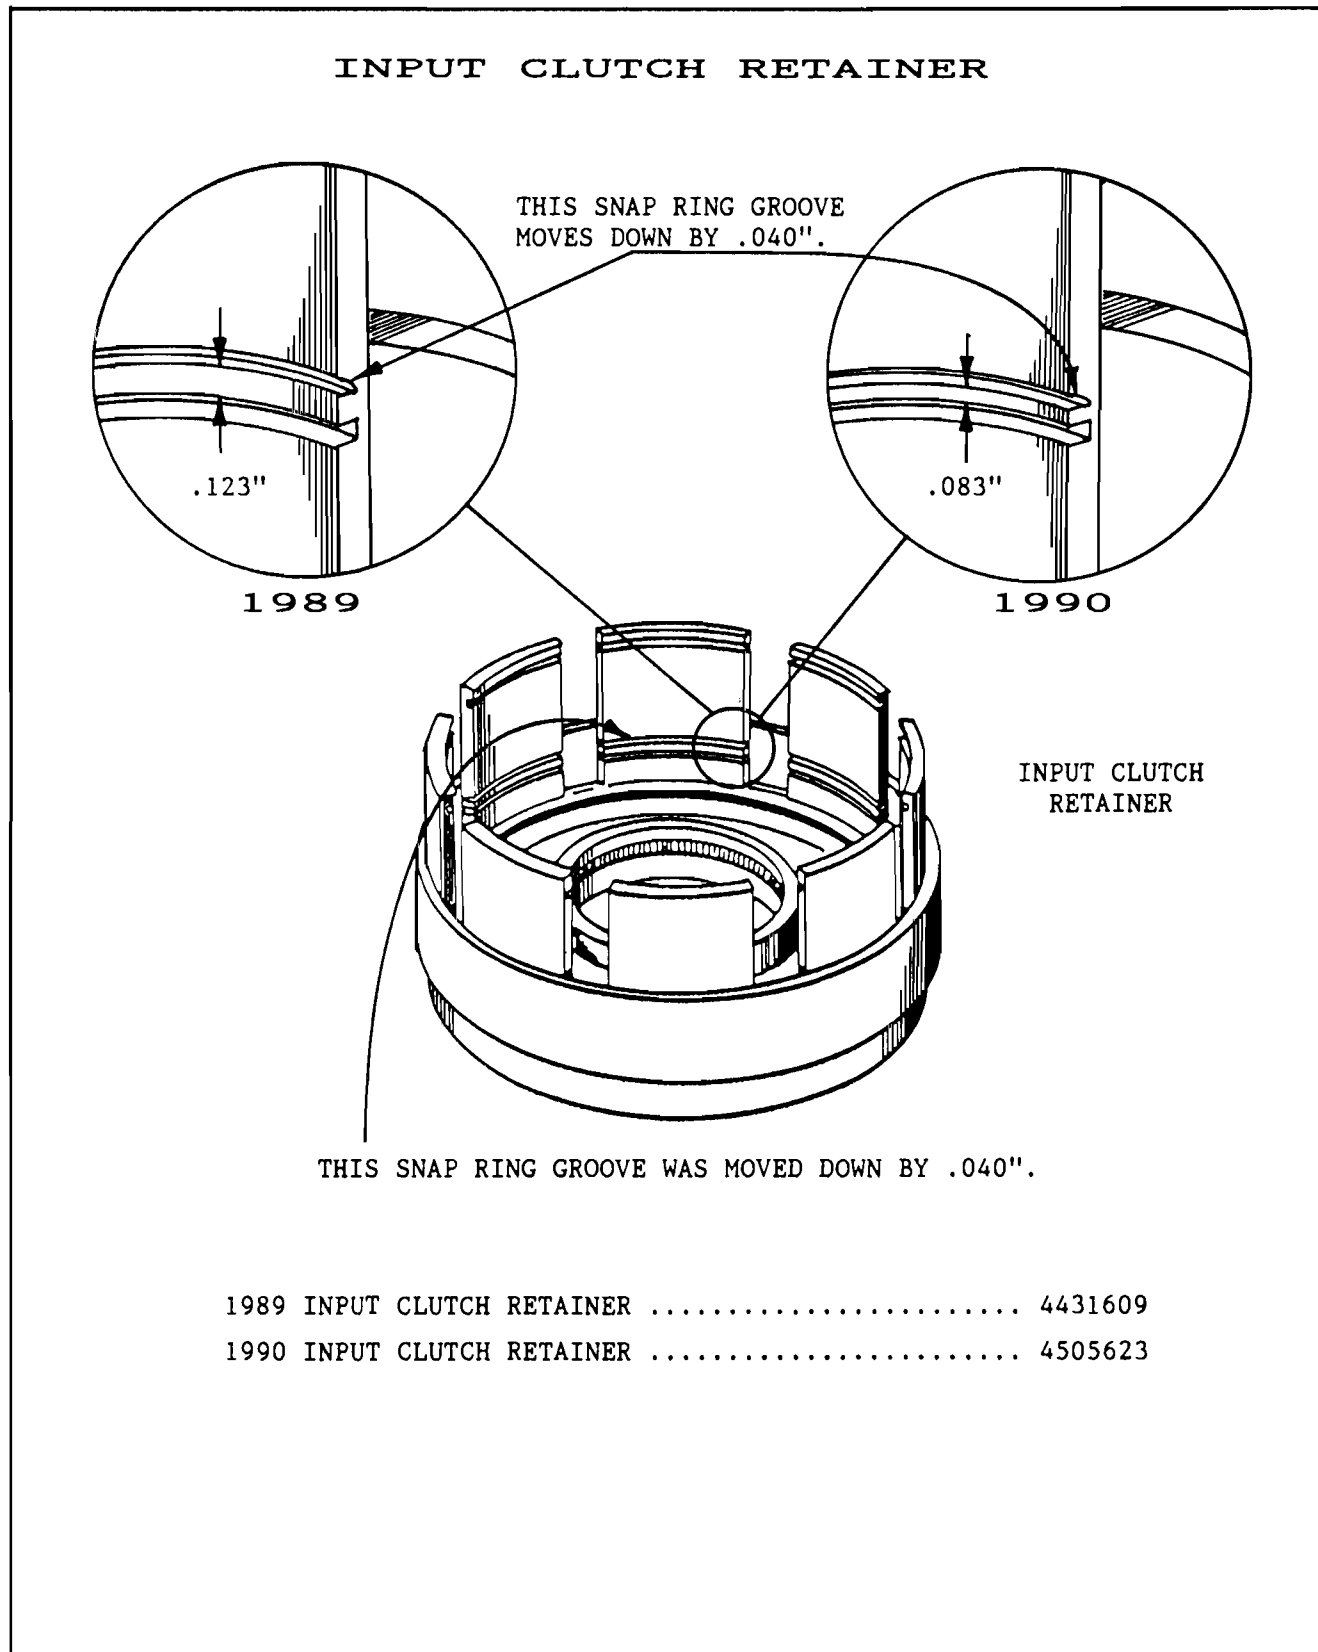
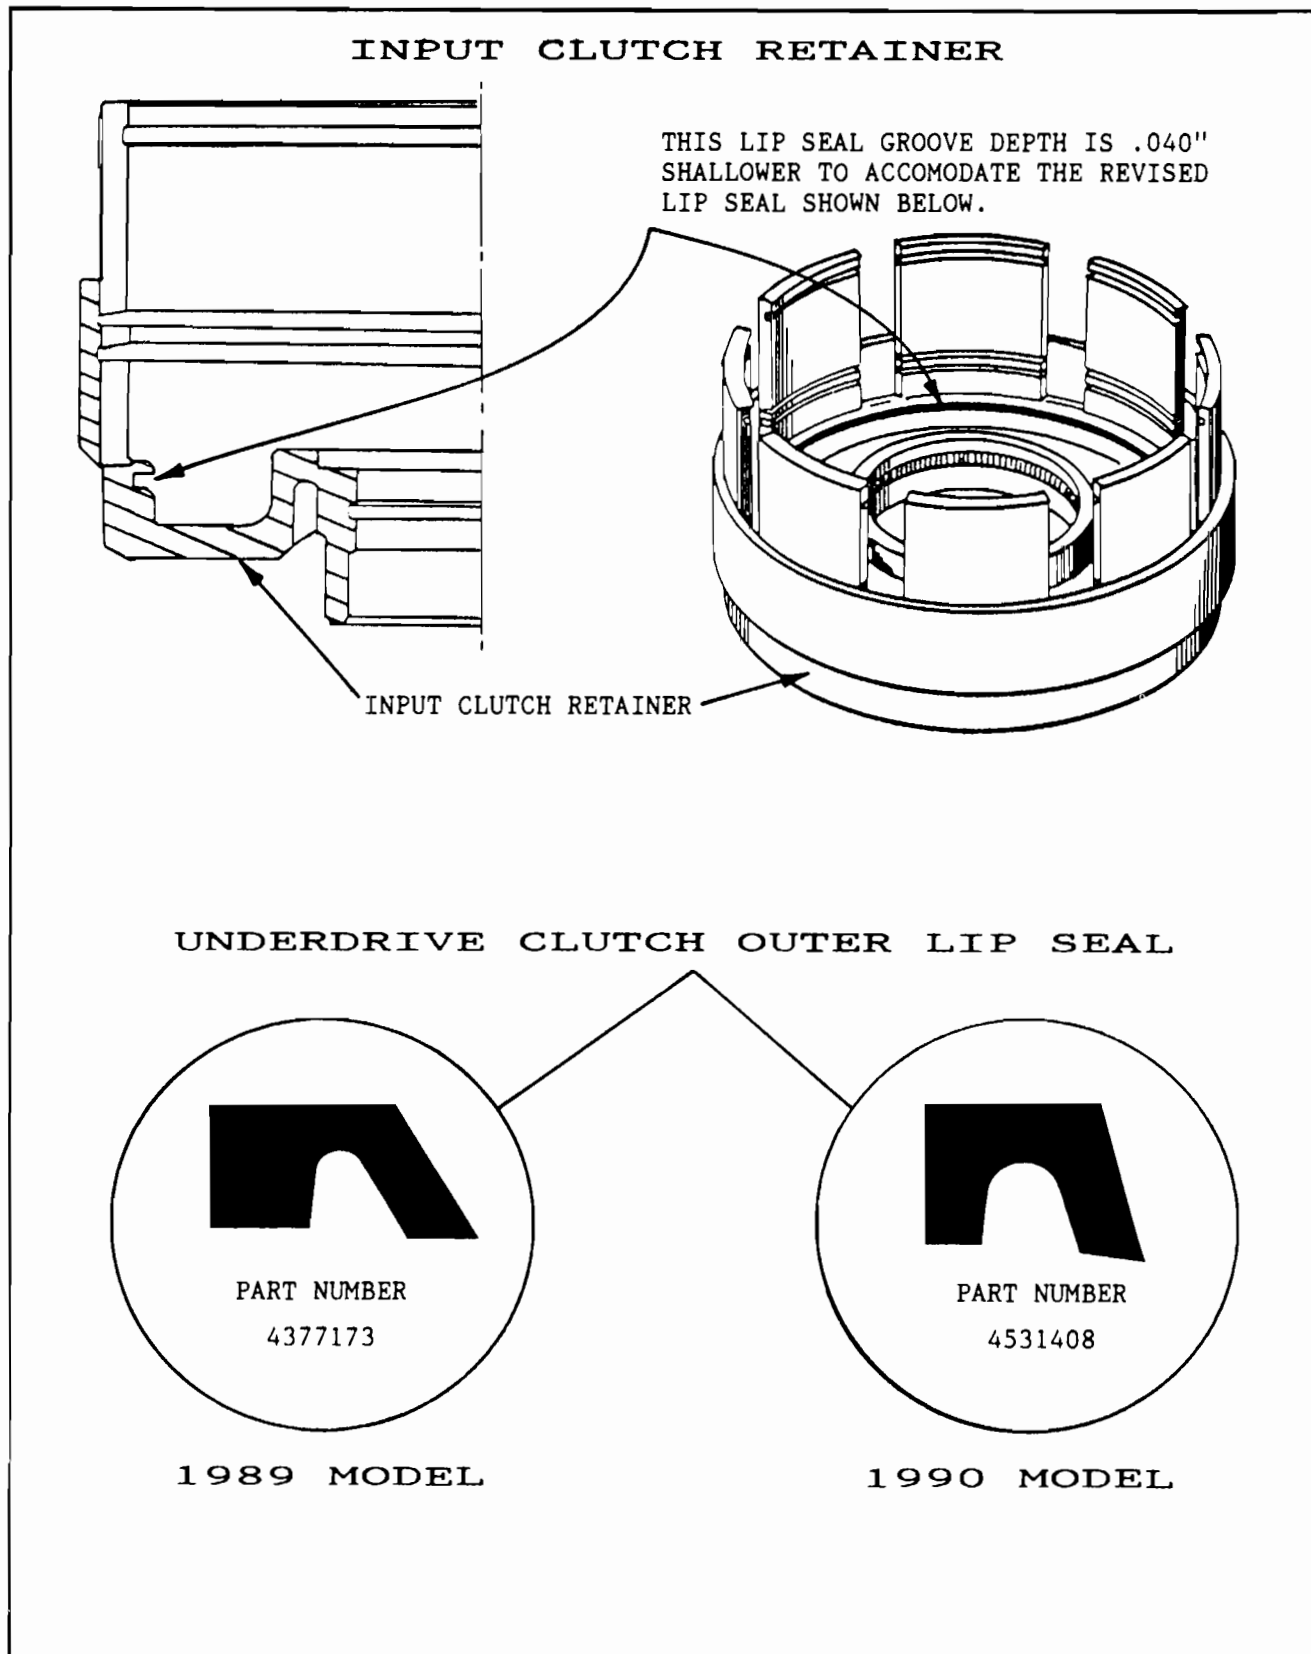

Figure 47
Figure 48
- (4) **INPUT CLUTCH RETAINER** - The Underdrive/Overdrive reaction plate tapered snap ring groove was moved "Down" by .040" (Can be detected visually) to accomodate the thinner underdrive/overdrive reaction plates (Figure 47). Another change that occurred at the same time is the underdrive clutch outer lip seal groove depth is .040" "Shallower" to accomodate a new underdrive clutch outer lip seal (See Figure 48).
- (5) **UNDERDRIVE/OVERDRIVE TAPERED SNAP RING** - The thickness of this snap ring was reduced by .010" . The 1990 snap ring is easily identified, as they will be Green , or White, in color. The previous snap rings were blue in color. They will not interchange.
- (6) **UNDERDRIVE CLUTCH OUTER LIP SEAL** - The lip seal cross section has been reduced by .040" (Smaller in Overall Diameter) to accomodate the change in the depth of the groove in the input clutch retainer (See Figure 48). The OEM part number is printed on the seal for identification. The 1989 (Large) is 4377173, and the 1990 (Small) is 4531408. This will confirm that you have the proper seal for this location (See Figure 48).